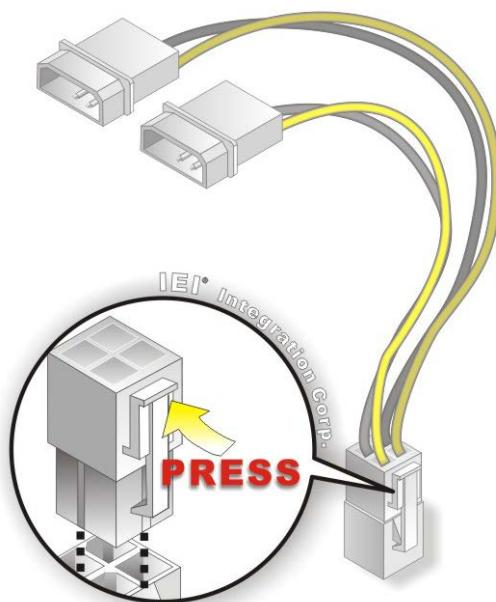

Figure 4-19: Power Cable to Motherboard Connection
**Step 2: Connect the Power Cable to the Motherboard.** Connect the 4-pin (2x2) Molex type power cable connector to the power connector on the motherboard. See Figure 4-19.